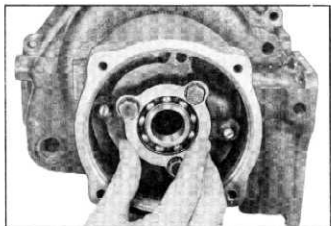

Fig. 123—Installing Rear Pump
1. Install two $\frac{5}{16}$ -18 x 3" guide pins in rear pump attaching holes. Install new gasket and pump (fig. 123), aligning suction and delivery holes. Install bolts and tighten to $12\frac{1}{2}$ 15 ft.-lbs.